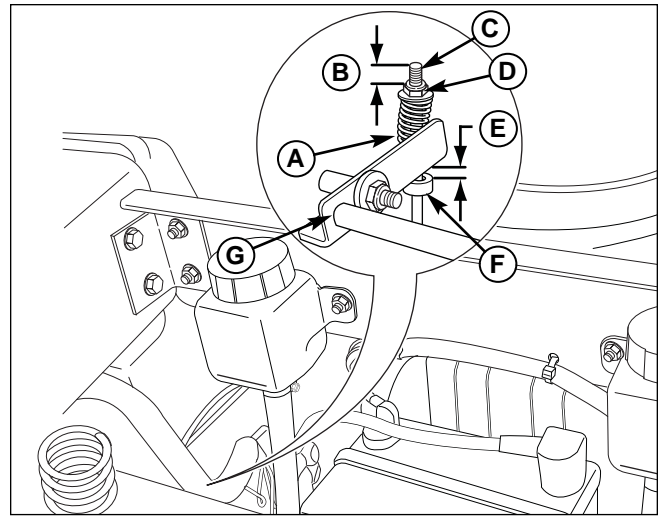

Figure 37. Parking Brake Adjustment
3. Measure the distance from the top of the brake spring rod (C, Figure 37) to the top of the lock nut (D) on both sides of the unit. The measurement should be $\frac{1}{2}$ " (1,27 cm). If not, adjust the locknut to achieve the measurement of $\frac{1}{2}$ " (1,27 cm).
4. Measure the distance between the bottom of the brake shaft weldment (G) and the top of the set collar (F). The measurement should be $\frac{3}{8}$ " (0,95 cm). If not, position the set collar until the measurement equals $\frac{3}{8}$ " (0,95 cm).